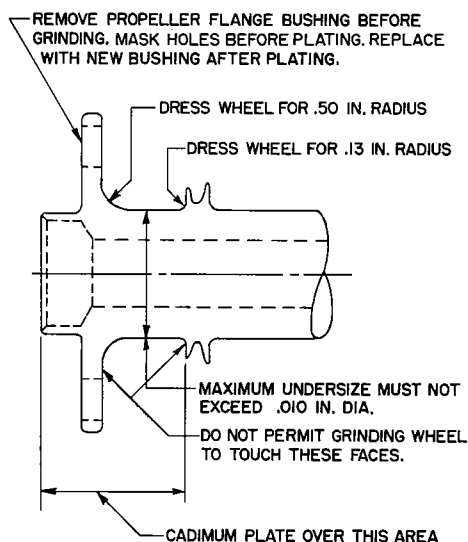

Figure 7-8. Reconditioning Crankshaft Oil Seal Surface
The grinding wheel, on the corner toward the propeller flange must be dressed to 0.05 inch radius while the opposite side, toward oil slinger, must be dressed 0.13 inch radius. Both radii must blend perfectly. Do not permit the side of the wheel to touch the propeller flange or face of oil slinger. See figure 7-8.
8. Cadmium plate (in accordance with AMS2400) the flange and oil seal area of the crankshaft as indicated in figure 7-8. Do not plate beyond the 0.13 inch radius.